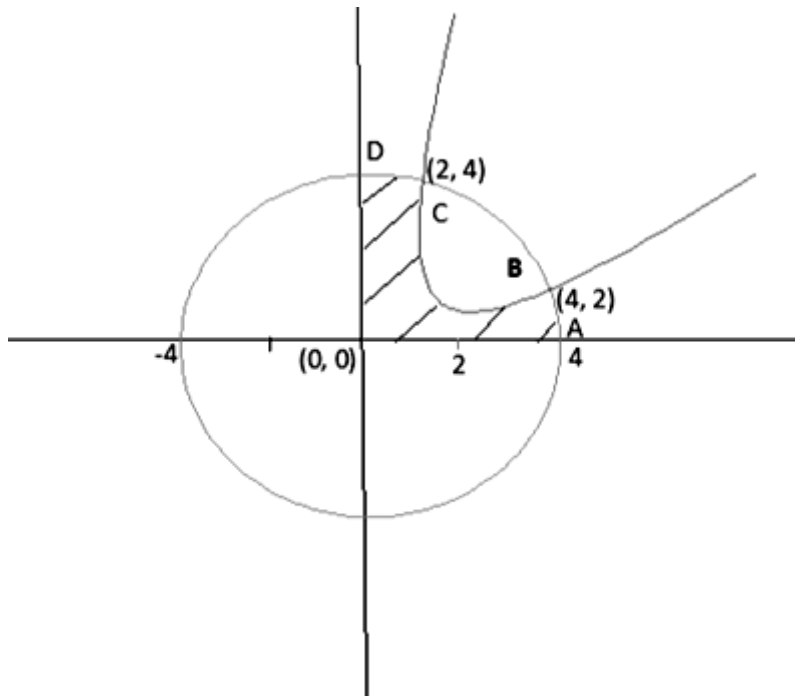

Figure 1.2.1 Graph to maximize Z
Take $x_1 = 2$ and 4 in eqⁿ (2) and (3), then we get $x_2 = 4$ and 2 respectively. So, the points are (2,4) or (4,2). Shaded non-convex region of OABCD (Figure 1.2.1) is called the feasible region. Now, we maximize the OF i.e. $2x_1 + 3x_2 = K$ lines for different constant values of K and stop the process when a line touches the extreme boundary point of the feasible region for some value of K.